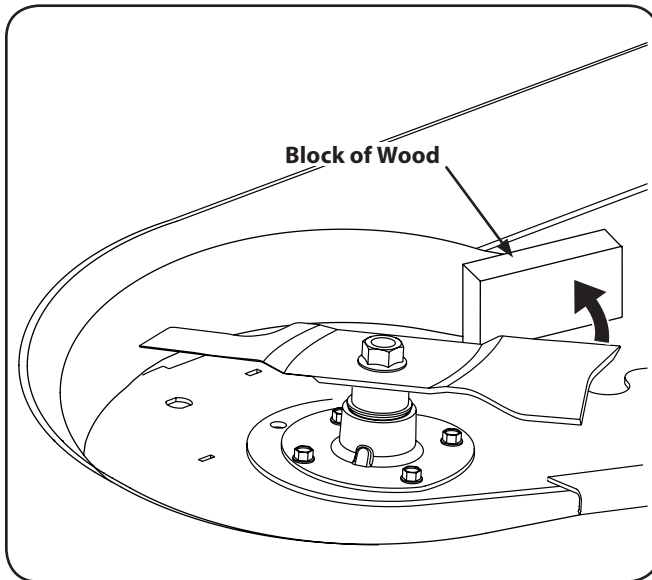

Figure 7-8
3. Wrap a rag around one end of the blade and grasp it to prevent it from turning, or secure the blade by placing a block of wood between the blade and the deck housing. See Figure 7-8.